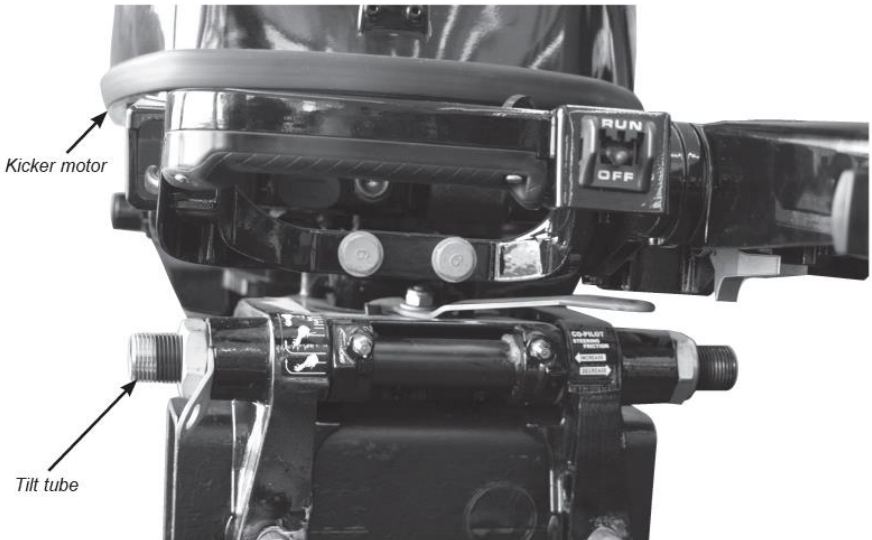

Fig B4 - Kicker motor mounting bracket with tilt tube
- ii) Lubricate the inside of the tilt tube with marine quality grease before assembly (Fig B4).